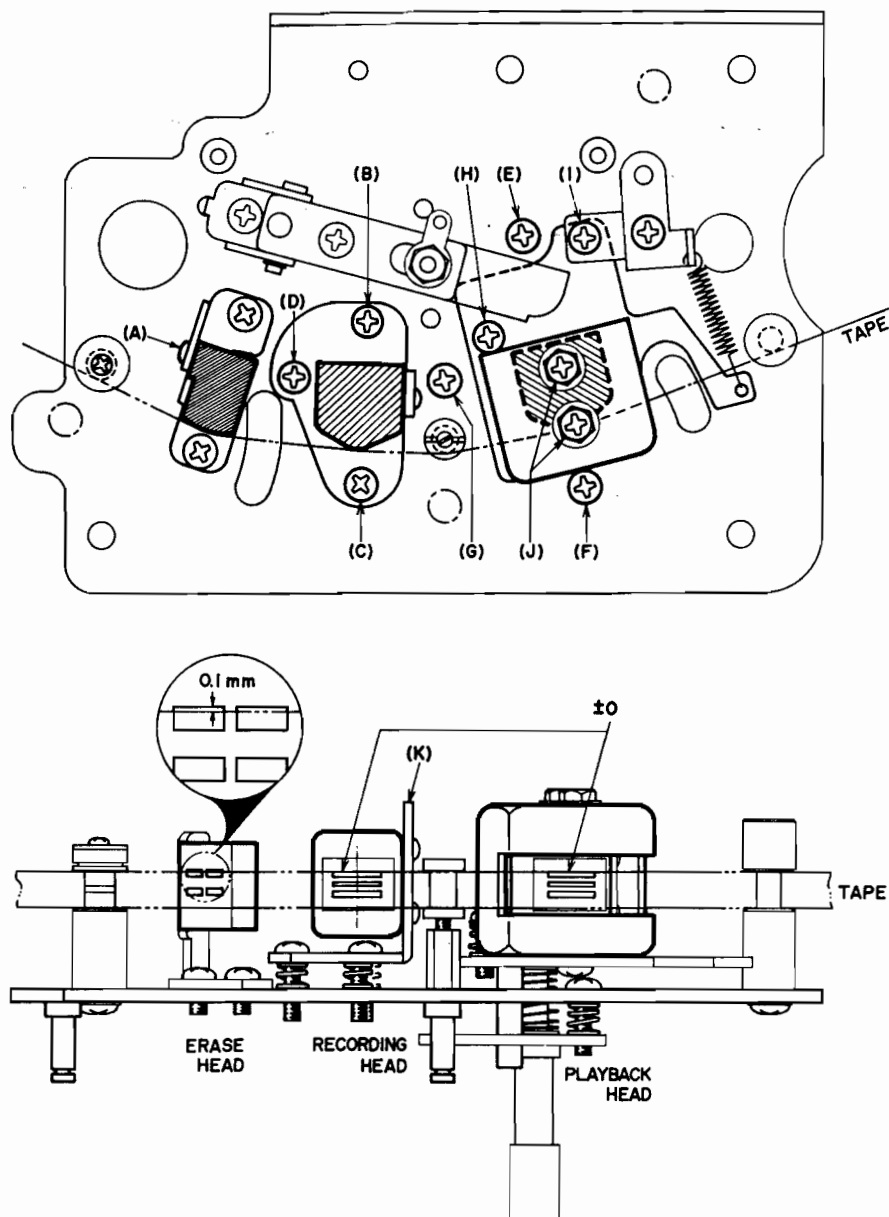

Fig. 15
At P.B. mode, loosen screw (A) shown in Fig. 15 and adjust erase head height so that the upper edge of the tape is about 0.1 mm lower than the left channel head core of the erase head.
At P.B. mode, adjust recording head height by turning screws (B), (C), and (D) shown in Fig. 15 to left and right until the upper edge of the tape and the upper edge of the left channel head core of the recording head are the same height.
- a. At forward P.B. mode, adjust playback head height by turning screw (I) shown in Fig. 15 to left and right until the upper edge of the tape and the upper edge of the left channel head core of the playback head are the same height.
- b. At reverse P.B. mode, adjust playback head height by turning screw (H) shown in Fig. 15 to left and right until the lower edge of the tape and the lower edge of the right channel head core of the playback head are the same height.
- d. At forward P.B. mode, turn azimuth alignment adjustment screw (G) to left and right until the output level of both channels is maximum.
- e. After the adjustment outlined in (d) above has been completed, loosen screws (J) and move the head gap side of the playback head to left and right until there is no fluctuation (maximum allowable fluctuation +0.5/-0 dB) in output level (both channels) when tension is applied to the supply reel. Tighten screws (J) to maintain this condition.
- c. At recording mode, turn azimuth alignment screw (D) to left and right and adjust so that the line output level of both channels is maximum and does not fluctuate.
- d. When the above adjustment has been completed, adjust the gap side of the recording head by bending recording head installation angle (K) shown in Fig. 15 to left and right until the line output level (both channels) does not fluctuate (maximum allowable fluctuation +0.5/-0 dB) when tension is applied to the supply reel.